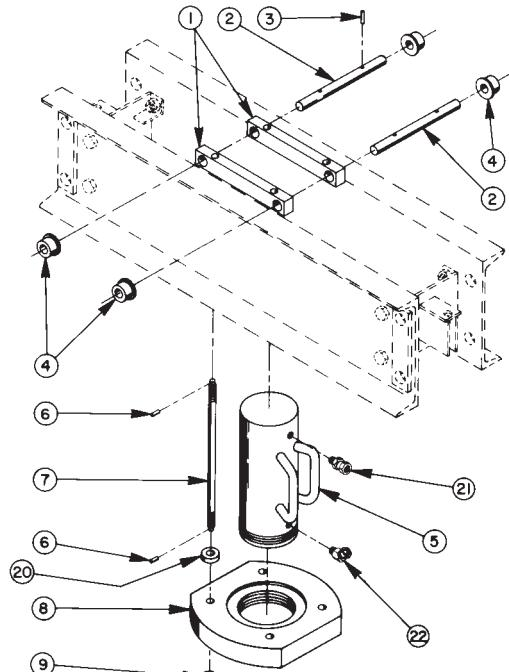
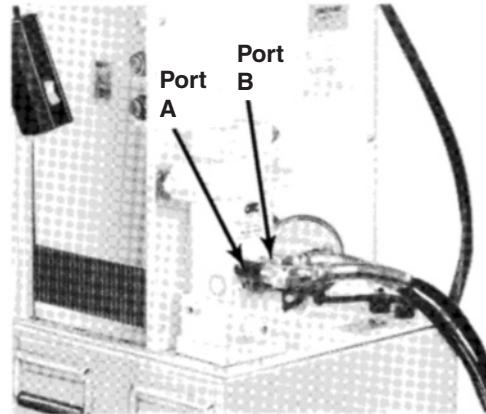

FIGURE 7
FIGURE 10
9. See Figure 7. Assemble the roller carriage wheels (Items 1, 2, 3, & 4). The lips of the carriage wheels (Item 4) must be located to the inside of the upper bolsters as shown in Figures 7 & 8. Install the threaded rods (Item 7) into the roller carriage, and secure with roller pins (Item 6). Place the completed assembly on top of the upper bolster. See Figures 7 & 8.
11. **80/100 ton (72.56/90.70 t) presses:** Thread the cylinder into the mounting plate (Item 8, Figure 7) until all threads are engaged.
150/200 ton (136.05/181.40 t) presses: Thread the cylinder into the mounting plate until the bottom hose fitting hits on the mounting plate counterbore (counterbore toward cylinder as shown in Figure 7). Position the cylinder inlet and outlet ports parallel with the upper press bolster and toward the hydraulic pump mounting position. Back the cylinder out of the threads only enough to position it correctly with hoses and fittings as shown in Figure 7).
14. See Figure 7. Install the four threaded rods in the roller carriage into the cylinder mounting plate. Secure the carriage with locknuts on the bottom side of the cylinder mounting plate. Adjust the ease of travel of the carriage with the tightness of the locknuts. Insert the roll pins (Item 6) in both ends of the threaded rods after adjustments have been made.
18. Connect the pump to the cylinder using the two hoses supplied. Valve port "A" (See Figure 10) must be connected to swivel connector (Figure 7, Item 21) on the cylinder. Valve port "B" must be connected to swivel connector (Figure 7, Item 22) on the cylinder.